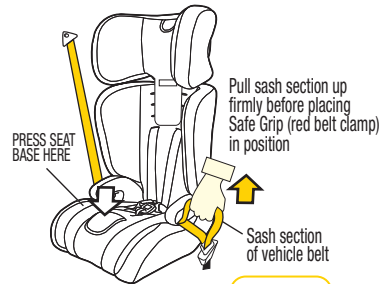

Figure 6
**Step 3:** Push down on the base of the restraint (with knee or hand) whilst pulling the sash section of the vehicle belt firmly up in direction of the yellow arrow in figure 6. This will make the lap belt very tight across the seat base. Whilst continuing to pull the sash section up (i.e maintaining tightness of the lap section). Tighten sash section of belt across the base (refer Figure 7).